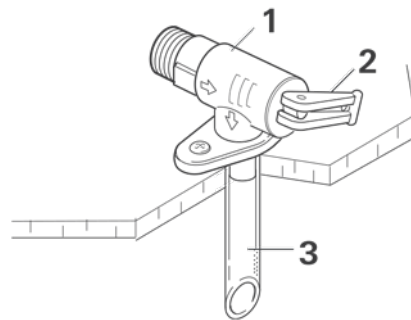
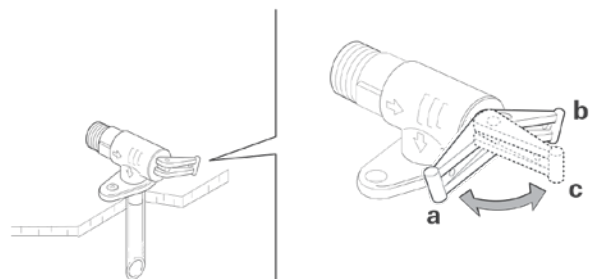

Figure 5
Figure 6
The Combi furnace with supplementary indirect water heating must be installed with the Truma pressure relief/drain valve (Fig. 5) that complies with the standard for Relief Valves for Hot Water Systems, ANSI Z21.22.
The drainage socket (Fig. 5 – 3) must be unobstructed and kept clear of obstructions such as slush, ice, or leaves to ensure that water can drain properly. No warranty claims for frost damage will be accepted.
- Move the lever so that it is in the “draining” position (Fig. 6 – c). Water will drain from the hot water container via the drainage socket (Fig. 5 – 3).
- Move the lever so that it is in the “closed” position (Fig. 6 – a or 6 – b)